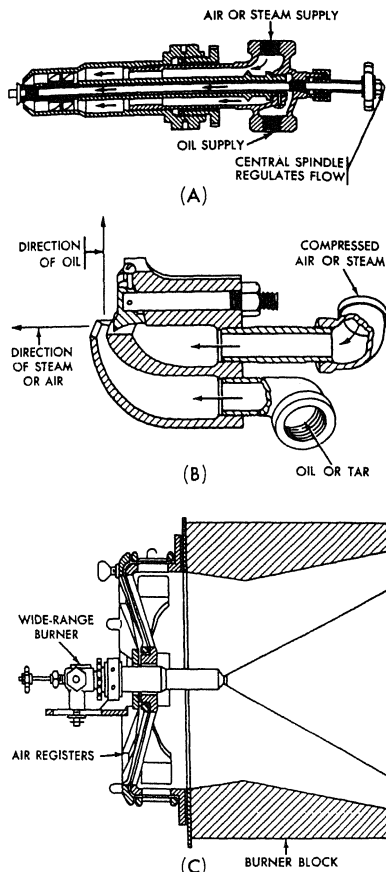

Figure 9-44.—Steam-atomizing burner.
Figure 9-44 shows a steam-atomizing burner of the external mixing type. In (A) the oil reaches the tip through a central passage and whirls against a sprayer plate to break up at right angles (B) to the stream of steam. The atomizing steam surrounds the oil chamber and receives a whirling motion from vanes in its path. When air is used as the atomizing medium in this burner, it should be at 10 psi for light oils and 20 psi for heavy oils. In (C) combustion air enters through a register; vanes or shutters are adjustable to give control of excess air.